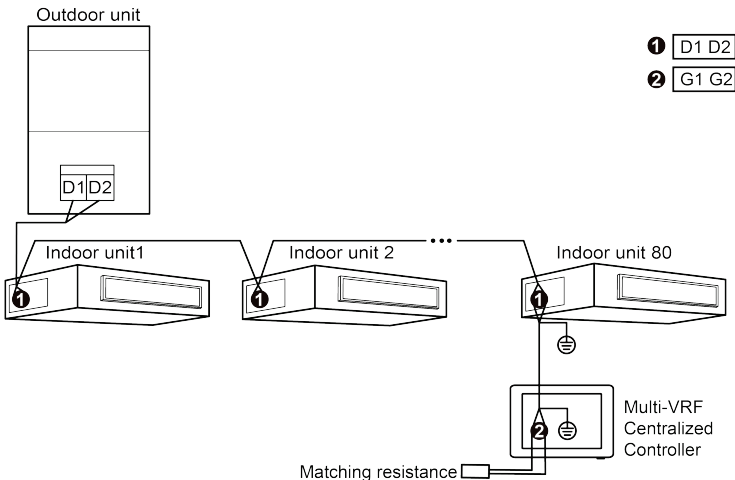

Fig.3.4 Centralized Controller Connected with Indoor Network
- (1) The smart centralized controller is applicable to photovoltaic(PV) multi VRF units, connectable with network of indoor units or the network of outdoor units. One centralized controller can control up to 16 sets of outdoor system and up to 128 sets of indoor unit.
- (2) If the centralized controller is to be connected with the network of indoor units, connect according to fig.3.4. The controller can connect with any one indoor unit in series, that is, connect the controller's G1 and G2 ports with the D1 and D2 ports correspondingly with communication cords, and connect the shielded layer of twisted pair line to . When the controller is connected with the terminal unit of indoor network, a matching resistance needs to be added with the communication cords at the G1 and G2 ports.